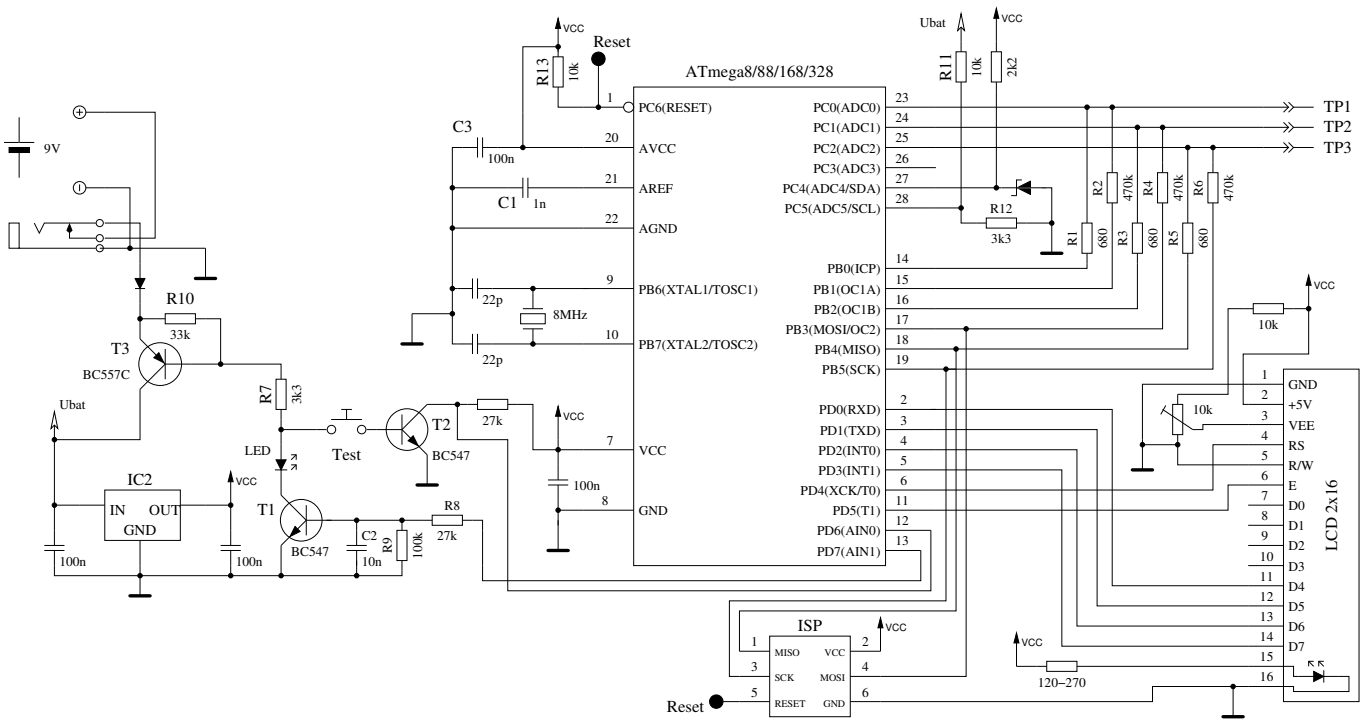

Figure 2.1: New circuit of TransistorTester
The circuit of the TransistorTester in figure 2.1 is based on the circuit of Markus F. released in Abb. 1 of AVR-Transistortester report [1]. Some changes are made because the electronical power switch make problems in some implementations. Therefore the resistor R7 is reduced to  $3.3k\Omega$ . The capacitor C2 is reduced to 10nF and R8 is moved so that the PD7 output does not try to switch a 100nF capacitor directly. Additional blocking capacitors are added and should be placed near the power connection of the Atmega and near the Voltage regulator. Because the PD6 input and PC6 (RESET) are the only pins, where pull up resistors where needed, one  $27k\Omega$  resistor is added to the PD6 (pin 12) input. With this modification the software can disable all internal pull up resistors of the ATmega. The additional crystal with its capacitors are optional added. The accuracy of a crystal has the benefit of more stable time measurement for getting the capacitor values. New software version can use a scale switch of the ADC. The speed of switching is reduced by the external capacitor C1 at the AREF (21) pin of the ATmega. To avoid slowing down the measurement speed, the value of the capacitor should be reduced to 1nF. Removing of the capacitor C1 is also possible. For adapting the software to the actual circuit take a look to the Makefile options in the configuring chapter 3. Some different versions of R11 / R12 resistor combinations circulates in the internet. I have adapted my software to the original of Markus F. [1]. The additional precision voltage reference connected at pin PC4 (ADC4) is planned to use with future software versions and is currently not used. A ISP connector has been added to easier load new software versions to the tester.